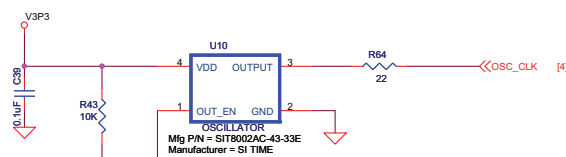
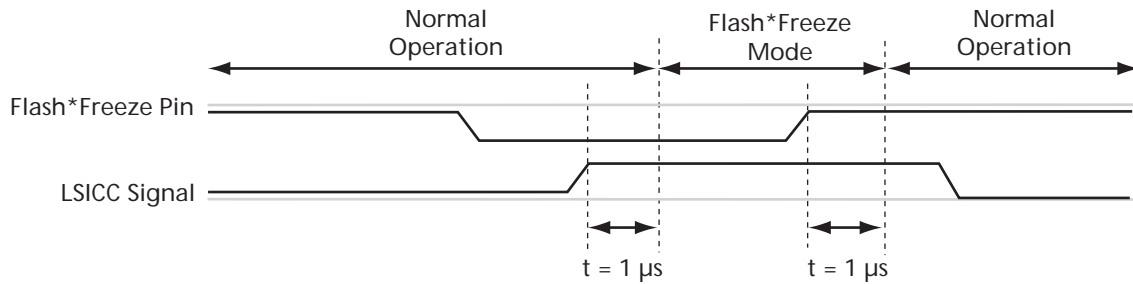

Figure 4-1 • Clock Oscillator Schematic
Figure 4-7 • Flash*Freeze Mode Type 1 and Type 2 – Signal Assertion and Deassertion Values
Figure 4-1 shows the schematic for the clock oscillator.
The IGLOO PLUS device has an ultra-low-power static mode, called Flash*Freeze mode, which retains all SRAM and register information and can still quickly return to normal operation (Figure 4-1).
Figure 4-7 shows the timing diagram for entering and exiting Flash*Freeze mode type 2. After exiting Flash*Freeze mode type 2 by deasserting the Flash*Freeze pin, the LSICC signal must be deasserted by the user design. This will prevent entering Flash*Freeze mode by asserting the Flash*Freeze pin only. Refer to Figure 4-1 on page 29 for Flash*Freeze (FF) pin and LSICC signal assertion and deassertion values.